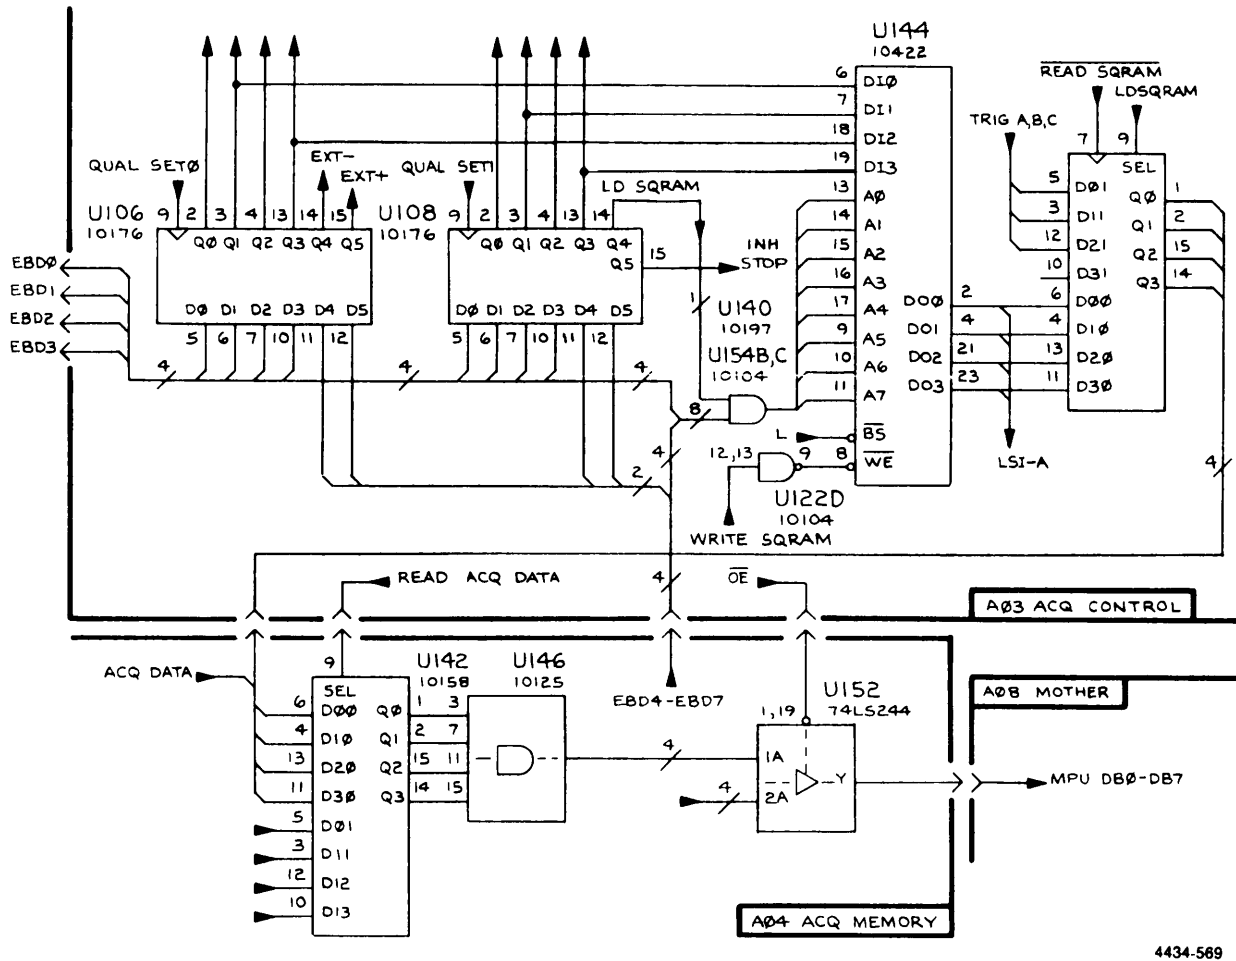

Figure 7-41. 338 SGRAM test.
**Description:** Refer to Figure 7-41. The SGRAM U144 (256 word X 4-bit RAM, HM10422) on the A03 ACQ Control board holds the trigger sequence table named Trigger menu.